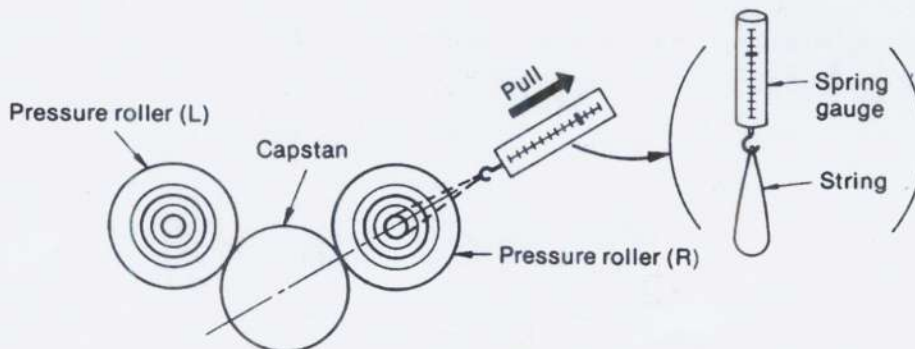

Fig. 17
- (1) Place unit in playback mode.
- (2) As shown in figure 17, pull with spring gauge.
- (3) Measure tension at moment when pressure rollers move away from capstan.
- (4) If tension is not within standard value, make readjustment as described in item [D].